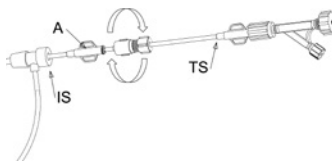

Fig. 13
- Connect the transportation sheath (TS) to the adaptor (A) (Fig. 13).